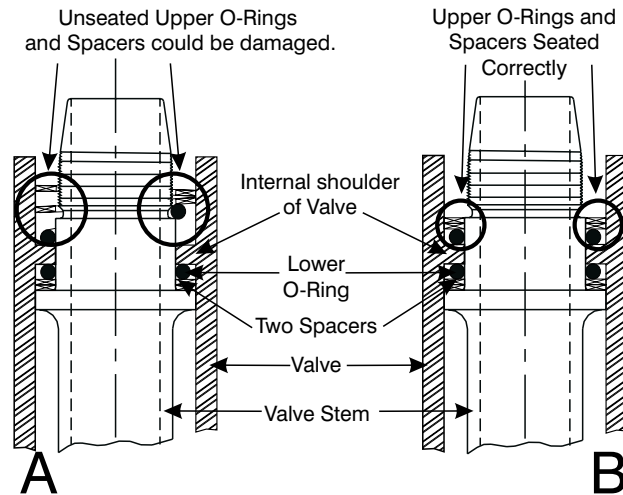

Figure 9-11. Proper Seating of Spacers and O-rings
15. Figure 9-11-B shows the Spacers and O-rings seated correctly.
17. DO NOT attempt to install the Valve Nut (3) and Nut Bushing (4) until the O-rings and Spacers are seated properly.
- If they are seated improperly as the examples in Figure 9-11-A show, the Hole-Hog will malfunction and these components may be damaged.
- These components must be seated so the top Spacer aligns with the top of the unthreaded portion of the hub. Refer to Figure 9-11-B.